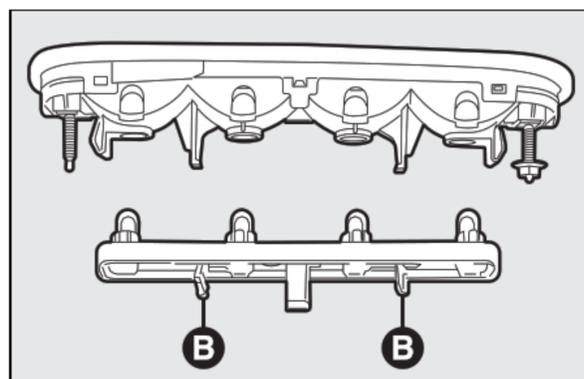

fig. 32
- press the tabs **B**-fig. 32 and remove the bulb holder;